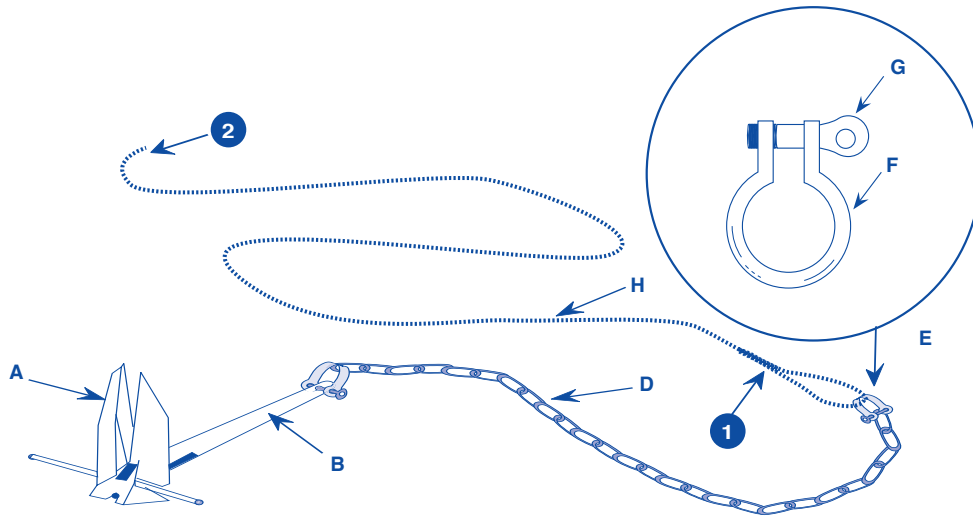

Figure 61.4 Coastal quick release anchor, chain, shackles and rope
1. Redraw the diagram of the anchor, chain, shackles and rope in Figure 61.4